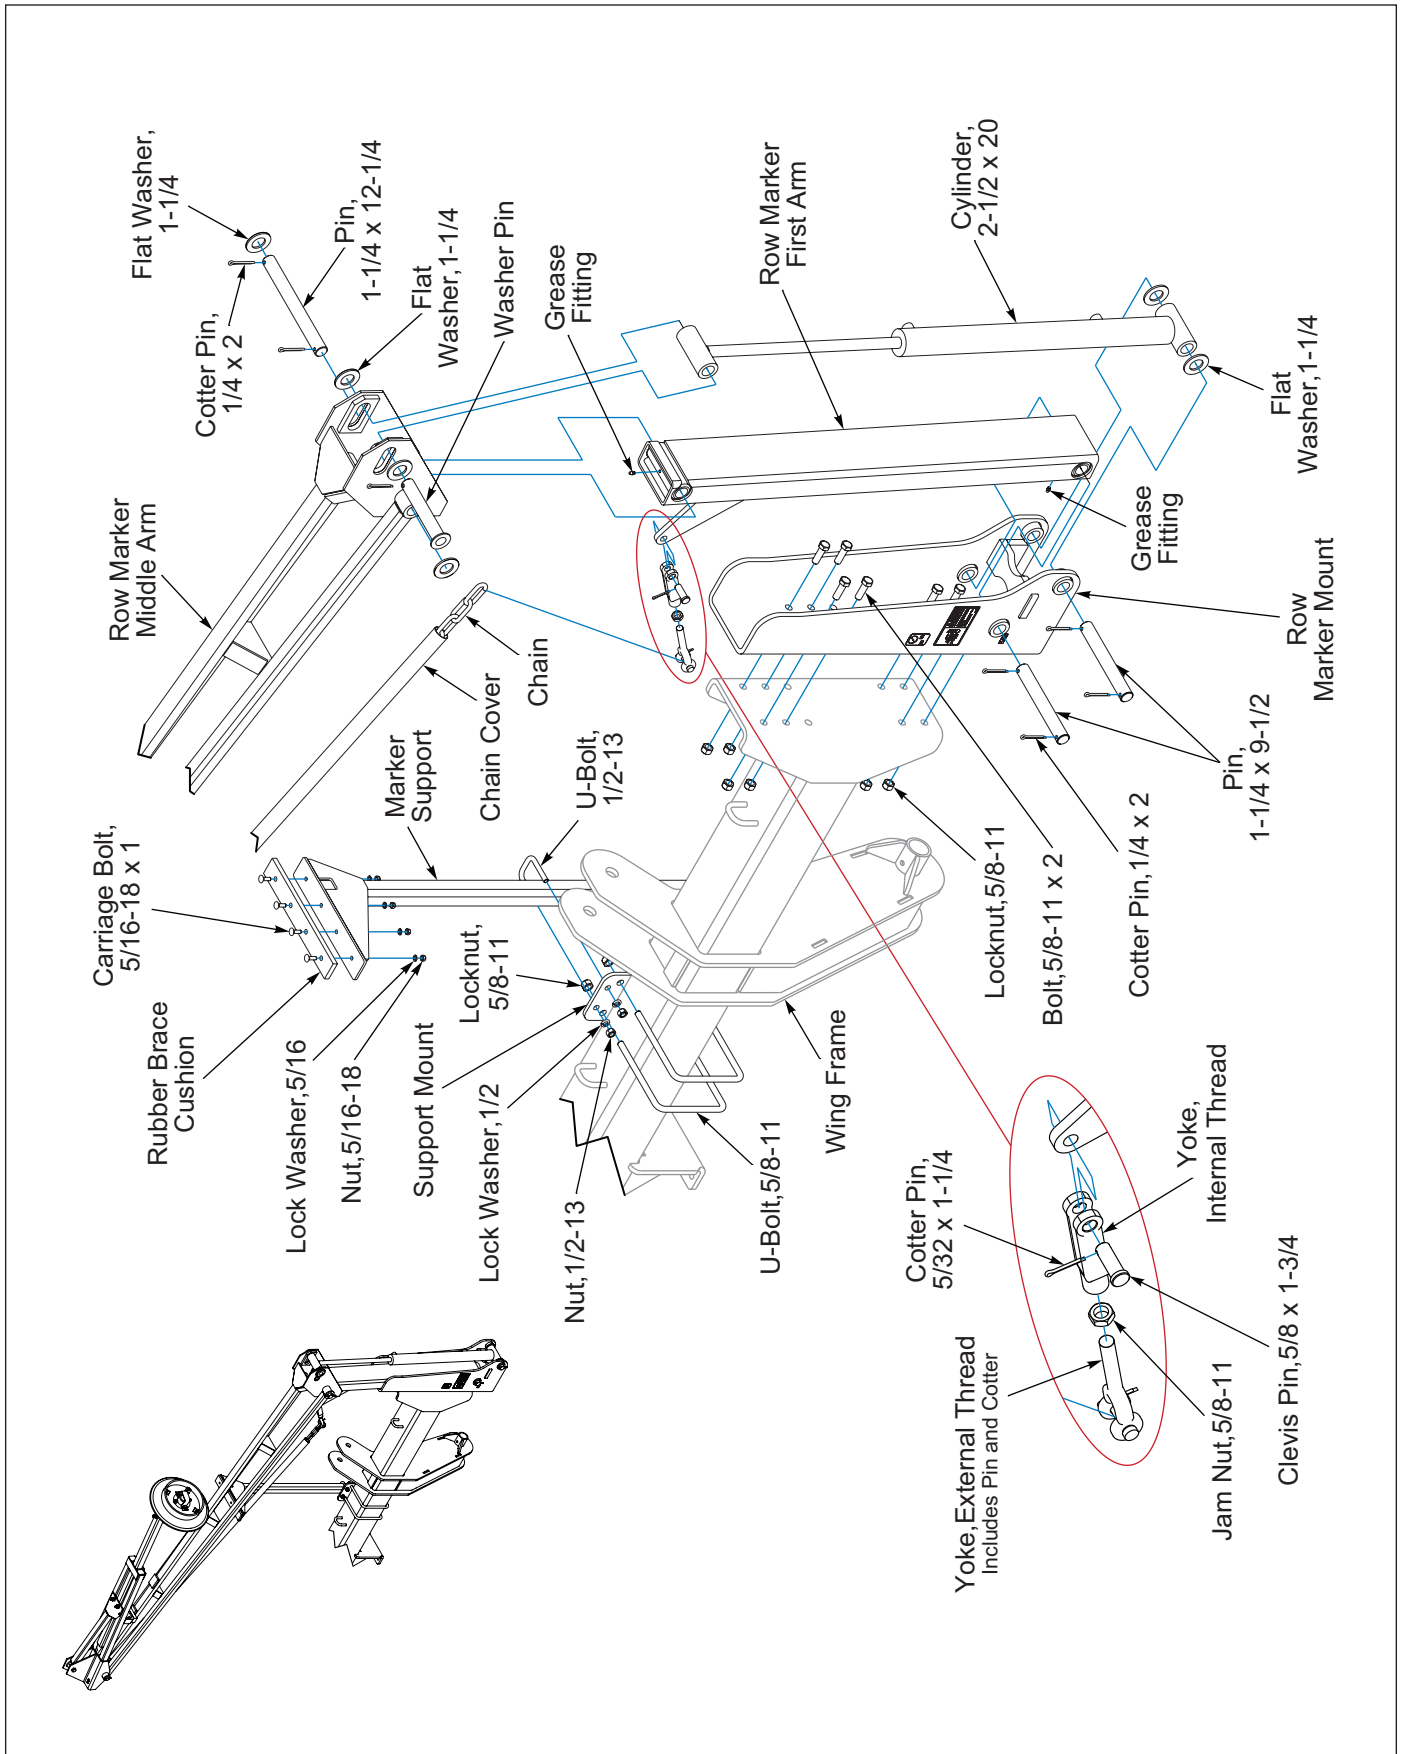

Figure 2-32: Row Marker Assembly (1 of 2)
1. Install Row Marker Mount to the end of each Wing Frame with 5/8-11 x 2 Bolts and Locknuts. **See Figure 2-32.**